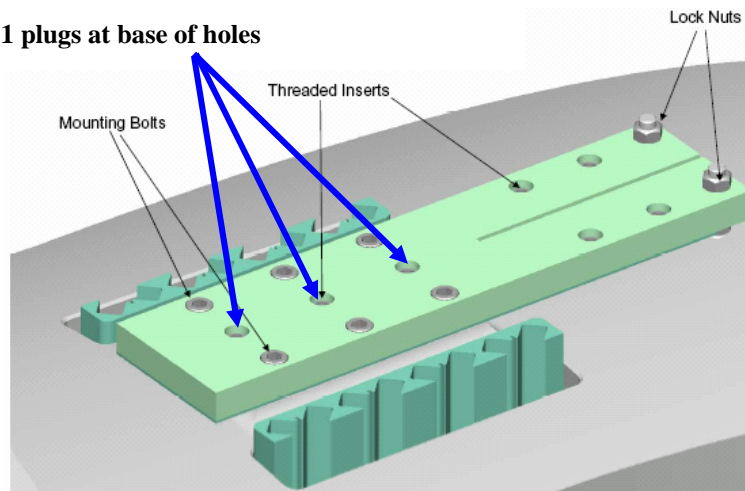

Figure 19-Installation of Lead Terminal Base
- Install the G-11CR base plate and secure in place with 0.375 mounting hardware and Loctite 2440. [Figure 19-Installation of Lead Terminal Base] Install G-11 plugs at bottom of threaded holes.